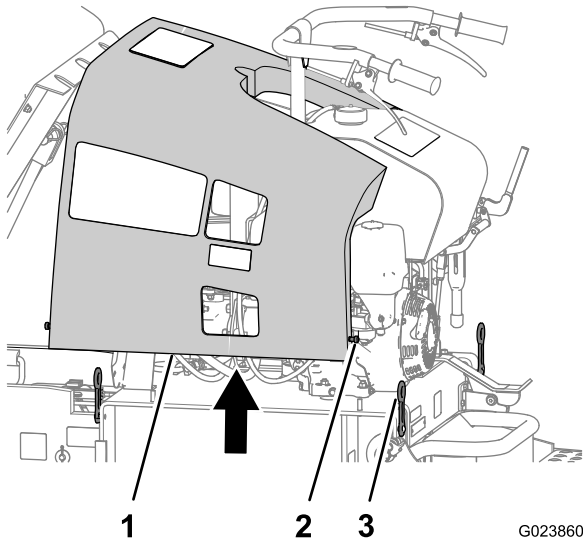

Figure 1
4. Remove the 4 latches that secure the engine cowl to the machine at the 4 latch posts (Figure 1).
5. Lift the engine cowl up and remove it from the machine (Figure 1).